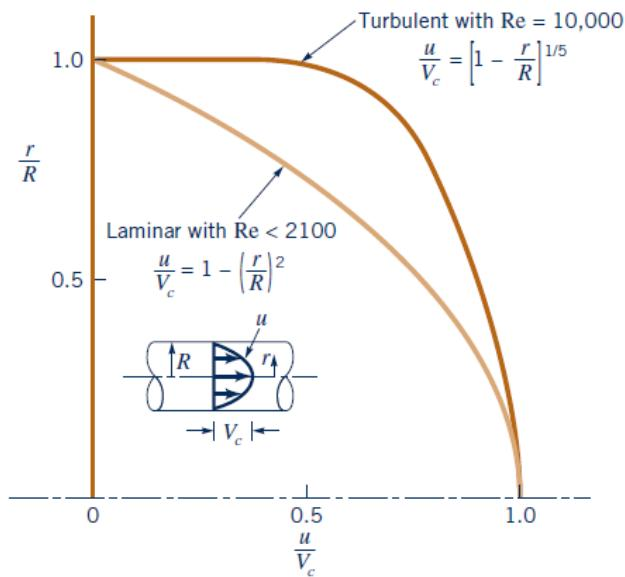

Figure P8.30
**8.30** As shown in Fig. P8.30, the velocity profile for laminar flow in a pipe is quite different from that for turbulent flow. With laminar flow the velocity profile is parabolic; with turbulent flow at  $Re=10,000$  the velocity profile can be approximated by the power-law profile shown in the figure. (a) For laminar flow, determine at what radial location you would place a Pitot tube if it is to measure the average velocity in the pipe. (b) Repeat part (a) for turbulent flow with  $Re=10,000$ .